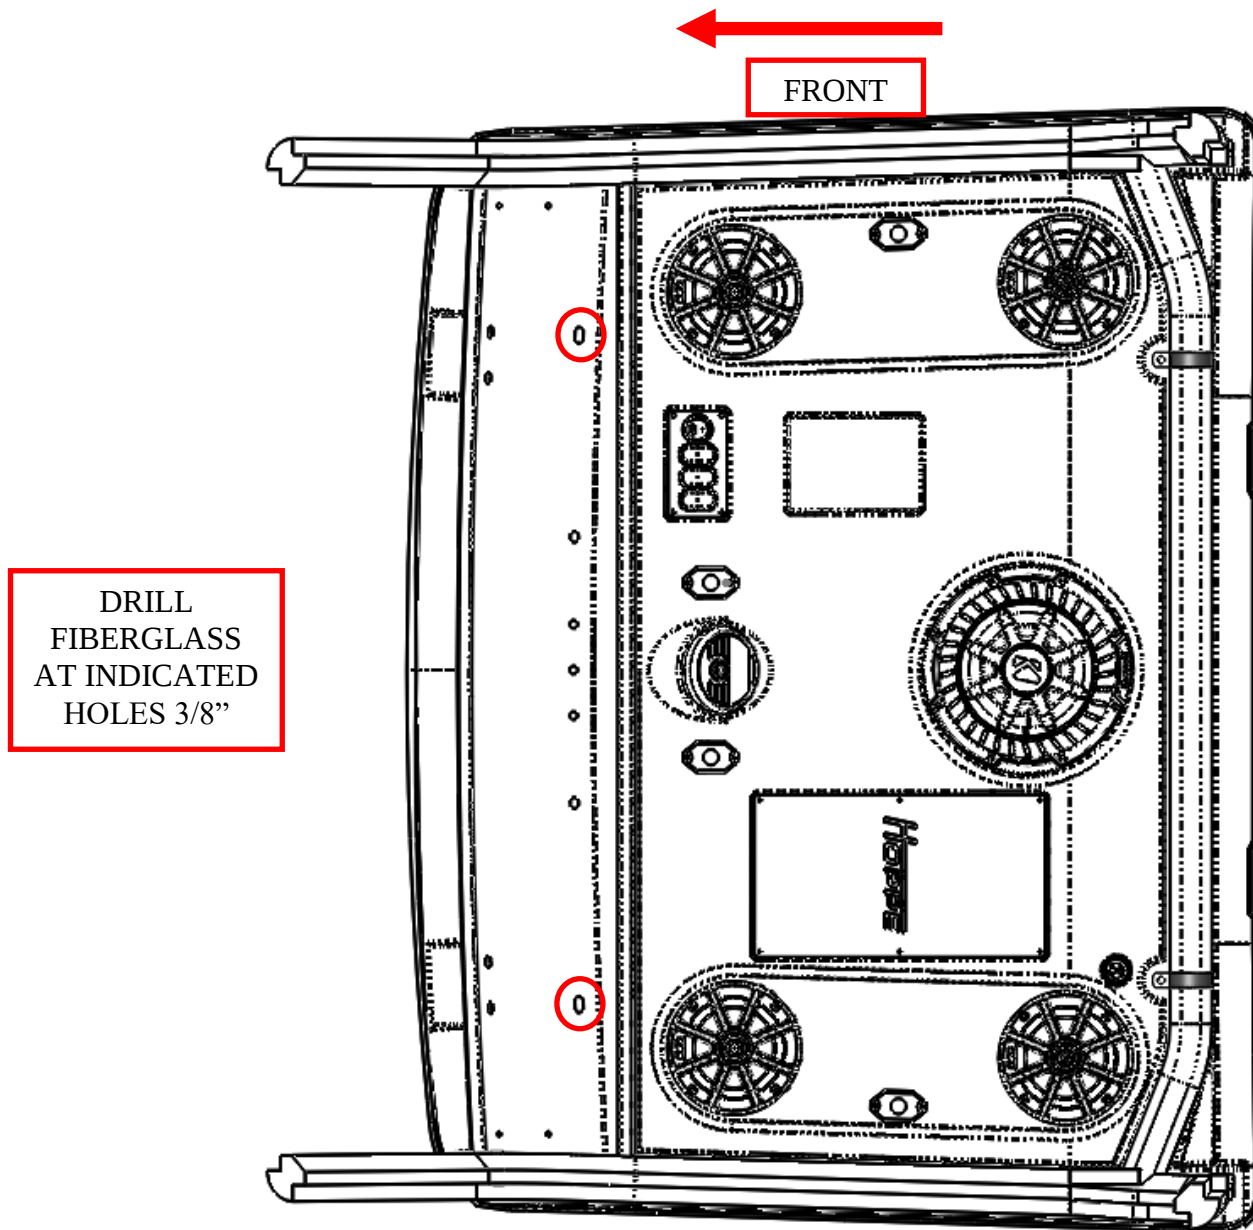

Figure 6: Install the top on the cage.
4. Using a few assistants, set the *Audio Shade* off-road top on the cage. The top is contoured such that the cage fits inside the grooves on the top. **Note: The top weighs up to 100 lbs. depending on your configuration. Since you will have to lift and reach, it is helpful to have at least 4 people for this step.** See Figure 6.
7. The top is mounted using the indicated holes in the factory cage. See Figure 6. Be sure the top is fully seated on the cage and in its final position. Drill a 3/8" hole through the fiberglass using the cage as a template at each location.